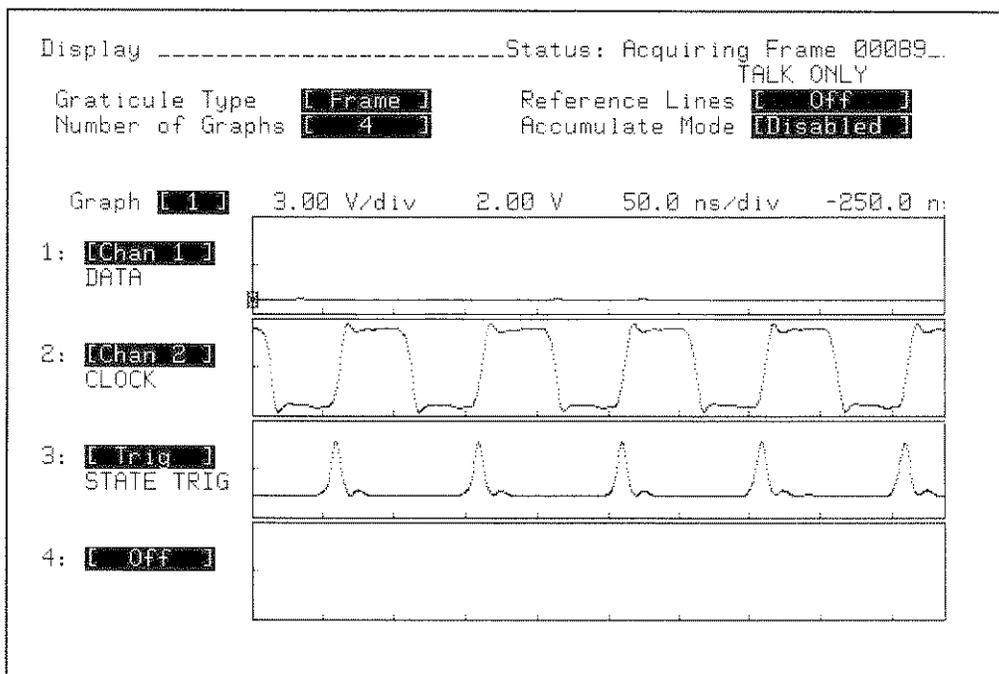

Figure 9-30. DISPLAY Configuration and Minimum Input Test Waveform
10. Configure the display as shown in figure 9-30. The displayed waveforms should appear similar to those shown in figure 9-30.